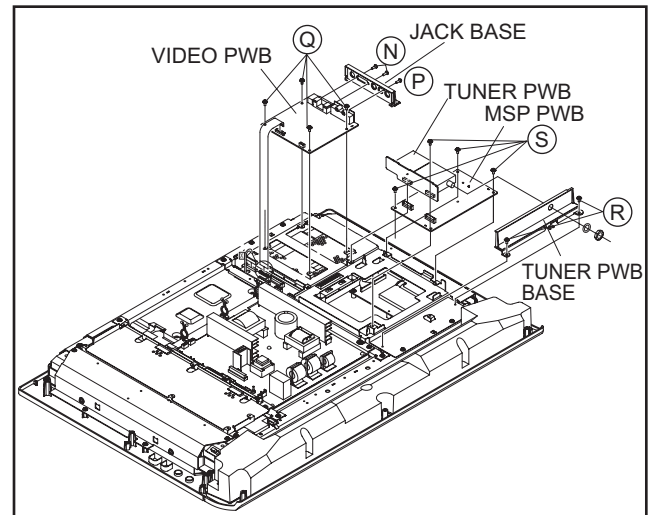

Fig.3-1-6
3.1.6 REMOVING THE VIDEO PWB (Fig.3-1-6)